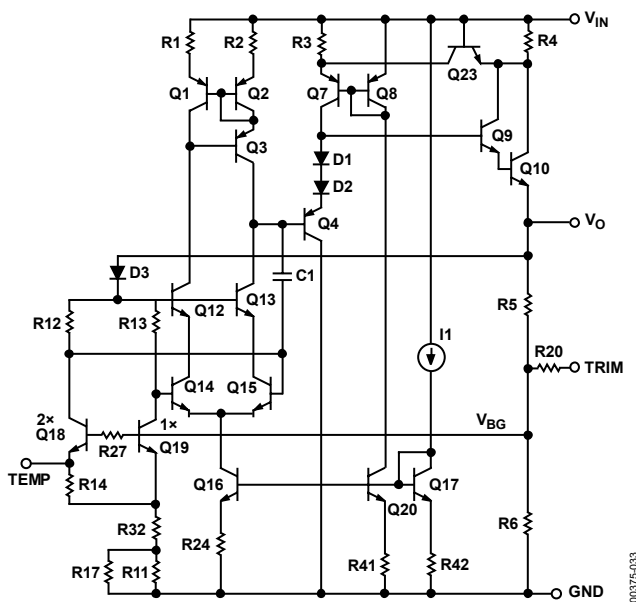

Figure 33. REF01/REF02/REF03 Simplified Schematic
**REF01**, **REF02**, and **REF03** are high precision, low drift 10.0 V, 5.0 V, and 2.5 V voltage references available in a variety of packages. These devices are standard band gap references (see Figure 33). The band gap cell contains two NPN transistors (Q18 and Q19) that differ in emitter area by a factor of 2. The difference in the  $V_{BE}$  values of these transistors produces a proportional-to-absolute temperature current (PTAT) through R14, and, when combined with the  $V_{BE}$  of Q19, produces a band gap voltage,  $V_{BG}$ , that is almost constant over temperature.